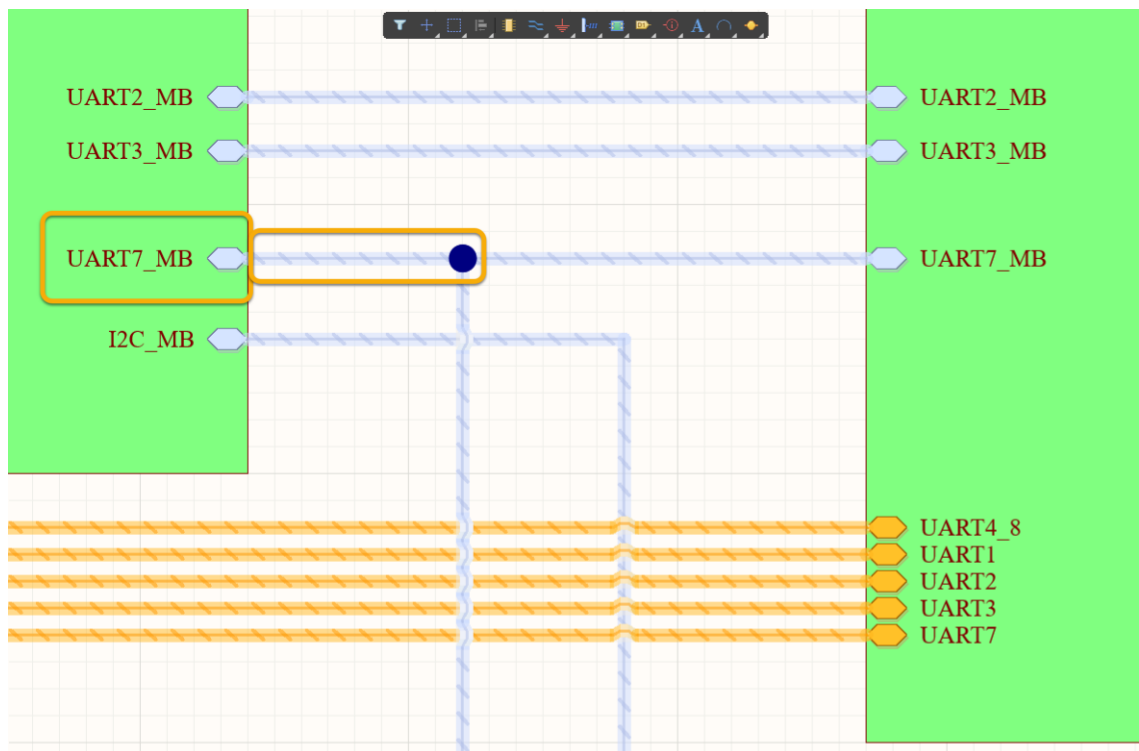

Figure 22. Final definition for Harness UART7\_MB Top Sheet
50. Similar to the previous step, we will make another Signal Harness connection between the `2_mb_conn.SchDoc` and `6_uart_esc_i2c.SchDoc` sheet symbols as seen in Figure 22.
- With the Signal Harness command still on your cursor, left-click on the corner of the `UART7_MB` Signal Harness you just created as shown in Figure 22.
- Complete the connection to the edge of the `2_mb_conn.SchDoc` Sheet Symbol and the `UART7_MB` Sheet Entry will automatically generate as shown in Figure 22.